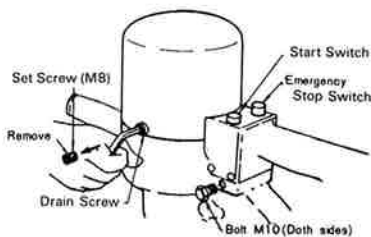

Fig. 4
- (7) Push the black button, and the Pump will start operating and the ram (punch) descending. Upon completion of punching, the Pump will stop operating and the ram return automatically. If a pause during work is desired, push the red button, and the ram will return. The switch need not to be held in the pressed position because it is a 'one-touch' type. (See Fig. 4.)
With the setscrew (M8) removed from on a side of the machine body, loosen the drain screw about one turn, push the black button, wait about 2-3 seconds and then push the red button. Repeating this procedure a few times will purge air completely and allow only oil to flow out. After air purging tighten the drain screw and the setscrew securely. (See Fig. 4.) **Punching operations with air remaining inside the machine is very dangerous; air purging should be made after a new coupler or hose has been installed or Selfer disassembled and reassembled.**
- (5) Apply a small amount of spindle oil to the punch's cutting edge. This will assure good punch withdrawal and a long service life as well.
- (6) After completion of the work, be sure to attach the dust-proof cap (supplied with the machine) to the couplers of hose and the Pump.
- (7) Install bolts into the bolt M10 holes (on both sides) under the switch, and set a wire rope on these bolts and the sub-handle. This will give great conveniences for transportation or using a winch, balancer, etc. (The screw hole is not provided in case of A05-1018, A06-1322. See Fig. 4.)